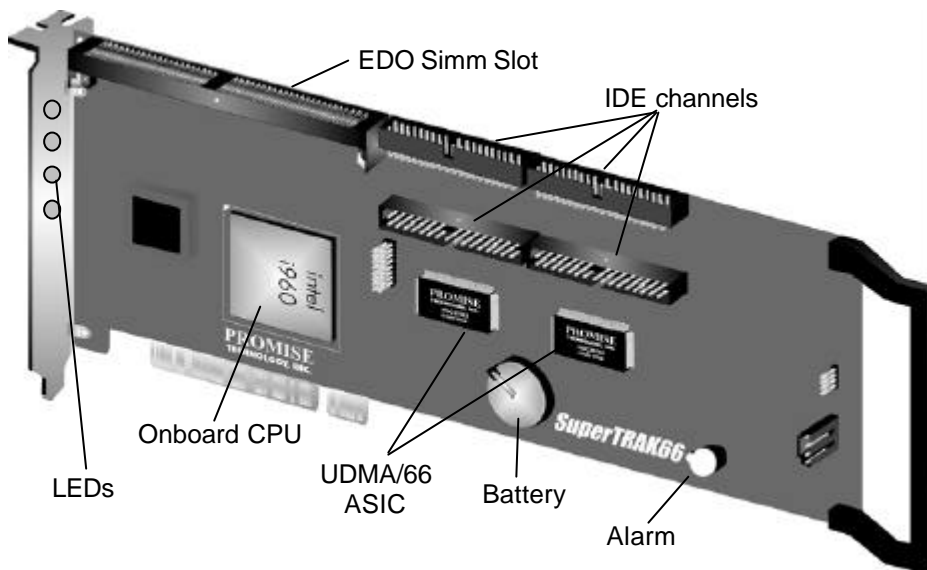

Figure 1: SuperTrak66 controller card
NOTE: *The SuperTrak66 controller card ships with two removable protective labels that cover the audible alarm buzzer device (see Figure 1) and the battery (see Figure 1) which maintains the non-volatile RAM memory. These labels must be removed prior to installing the card.*
Seen in Figure 1, the SuperTrak66 controller card has several physical features of interest for purposes of installation: A SIMM socket for EDO memory (minimum 8MB required), 4 IDE channel connections (1 "master" drive per channel), an alarm buzzer, a battery, and 4 LEDs on the card's backplane.
- 1) Install EDO memory into the SIMM slot at SIMM1 (see Figure 1). The minimum memory requirement is 8MB. For optimal performance, Promise recommends at least 16MB. Some units may ship with 16MB memory.
- 2) Remove protective label for 3V (CR2032 or compatible) battery shipped with the card (see Figure 1) that supports NVRAM.
- 3) Remove protective label for audible alarm buzzer (see Figure 1).